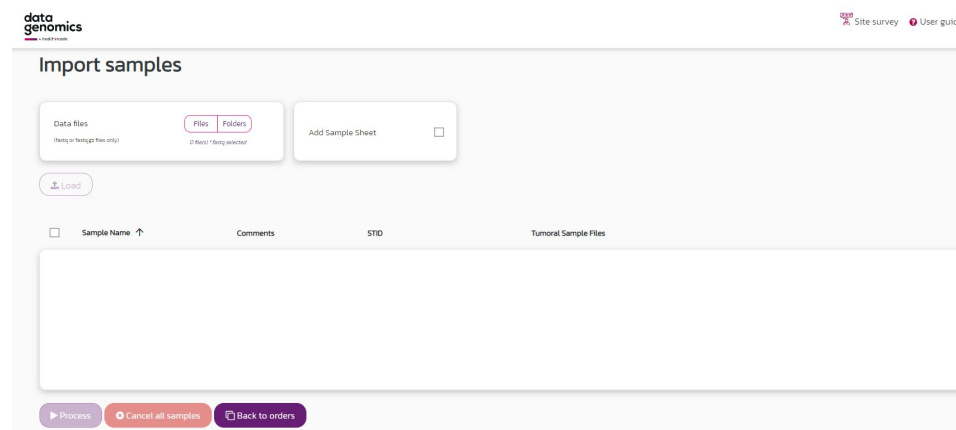

Figure 2. Screen for importing the fastq files and the sample sheet and commence the analysis request
- 01 Select the "Import Samples" on the main screen (*Orders* tab) to begin the analysis of the sequenced samples. This way, you will access the file import screen (Figure 2). On this screen, the fastq files associated with each sample must be imported; optionally, the *Sample Sheet* file, which will allow us to import simultaneously all the files from the same sequencing run, can also be imported.